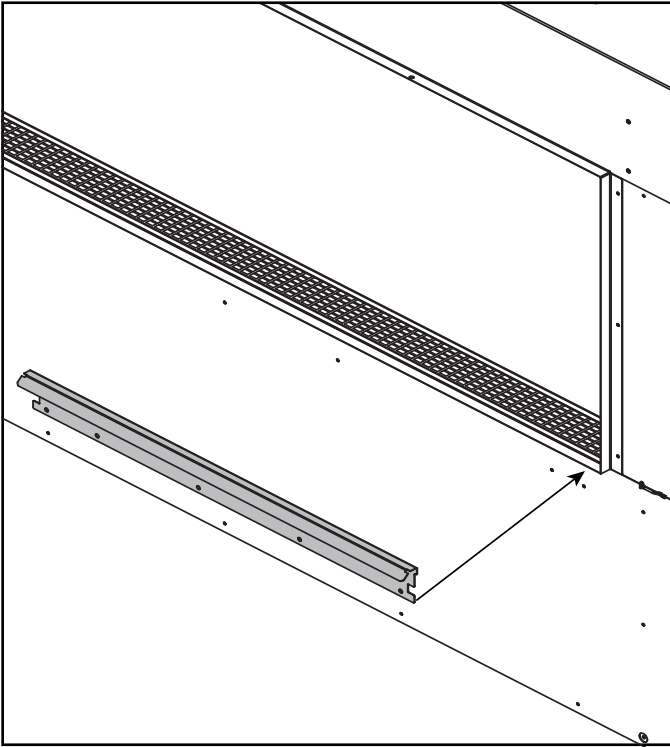
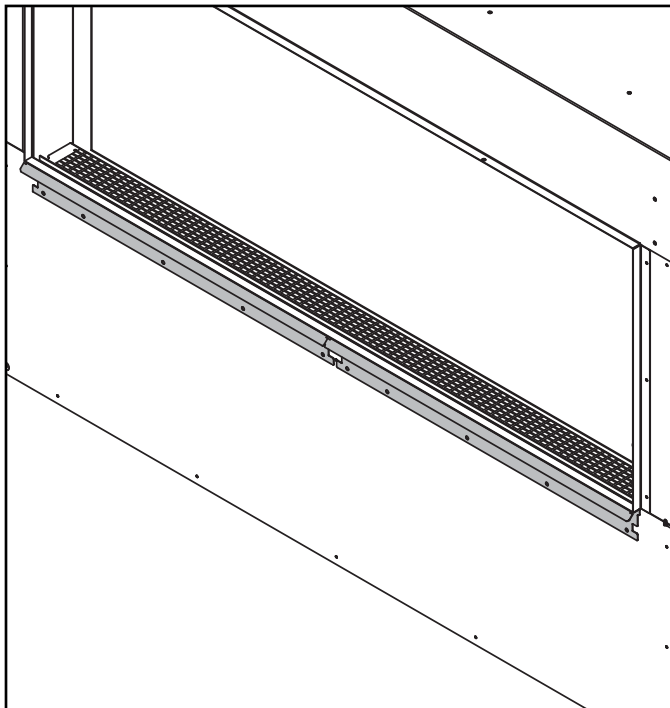

Figure 6 Align and Install the Bottom Rail
Figure 7 Bottom Rails Installed
1. Align the right side of the bottom rail with the sheetrock ledge on the right side of the appliance as shown in Figure 6. Install the included self-tapping screws. Repeat the steps to install the left bottom rail. See Figure 7.